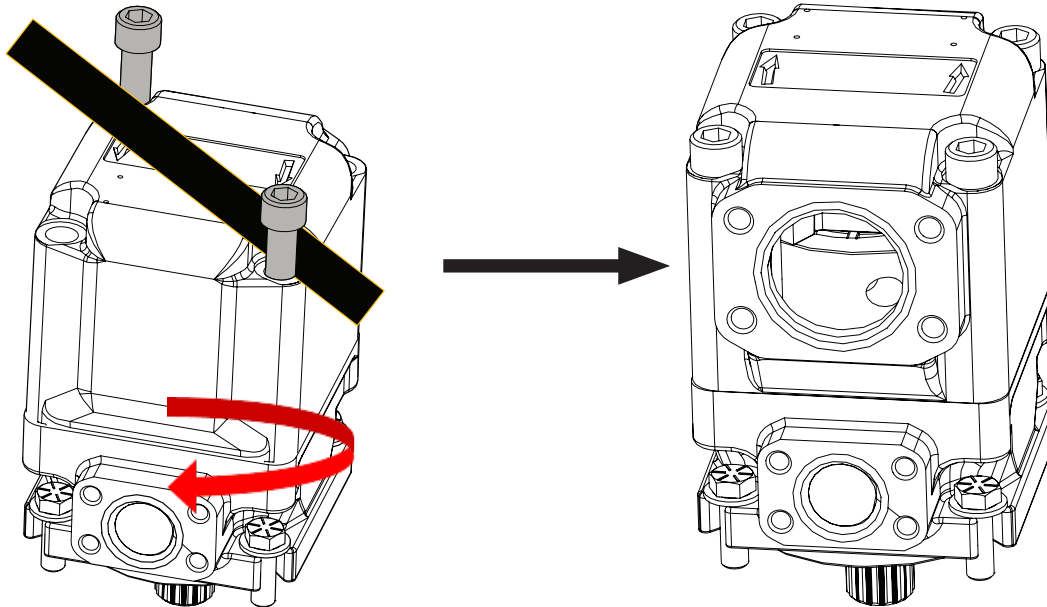

Figure 9
6. Use an appropriate pry bar to apply torque to the two remaining assembly bolts to rotate the suction port until it is in line with the pressure port (Figure 9). **IMPORTANT: Turn slowly to avoid internal seal damage.**